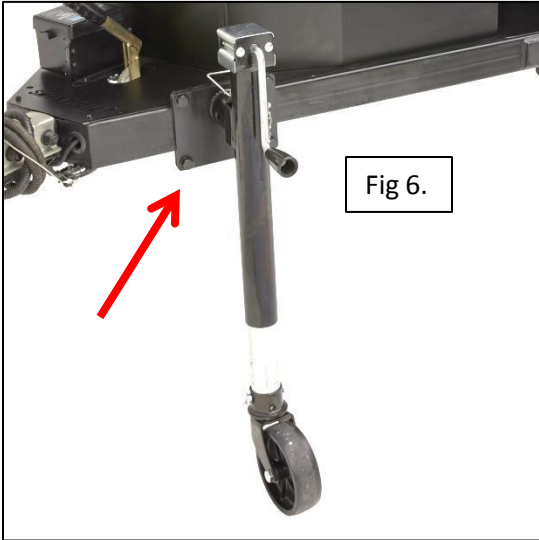

Fig 6.
8. Attach jockey wheel mount to the tongue using M12 hardware. Once all hardware is in place, use thread locker and torque to 78 ft/lb. Fig 6. you may also use one of the shorter rear jacks to help lift the tongue.